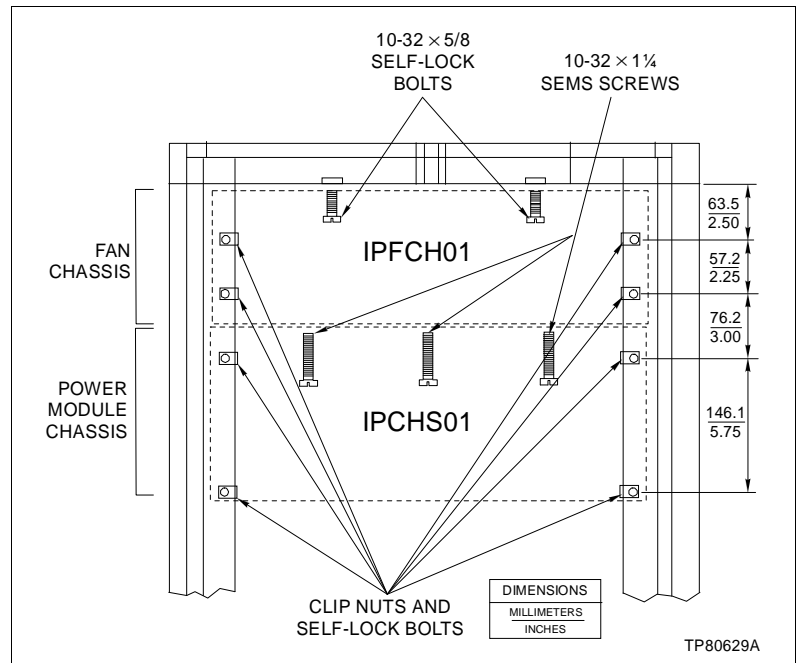

Figure 3-2. Clip Nut Spacing
1. The fan chassis requires four No. 10-32 clip nuts and six No. 10-32 self-lock bolts (included with the chassis). Determine where the clip nuts will go in the cabinet side mounting rails and clip them to the side rails. Figure 3-2 shows the spacing required for the clip nuts.
4. Install two self-lock bolts in the mounting holes on the front top side of the fan chassis to secure it to the upper mounting bracket (Fig. 3-2).
1. The power module chassis requires four No. 10-32 clip nuts and four No. 10-32 self-lock bolts for mounting (included with the power module chassis). Determine where the four No. 10-32 clip nuts will go in the cabinet side mounting rails (Fig. 3-2) and clip them to the side rails.
4. Install three No. 10-32 x 1-1/4 Sems screws (supplied with IPFCH01 chassis) to secure the front edge of the IPCHS01 chassis to the front edge of the IPFCH01 chassis (Fig. 3-2).